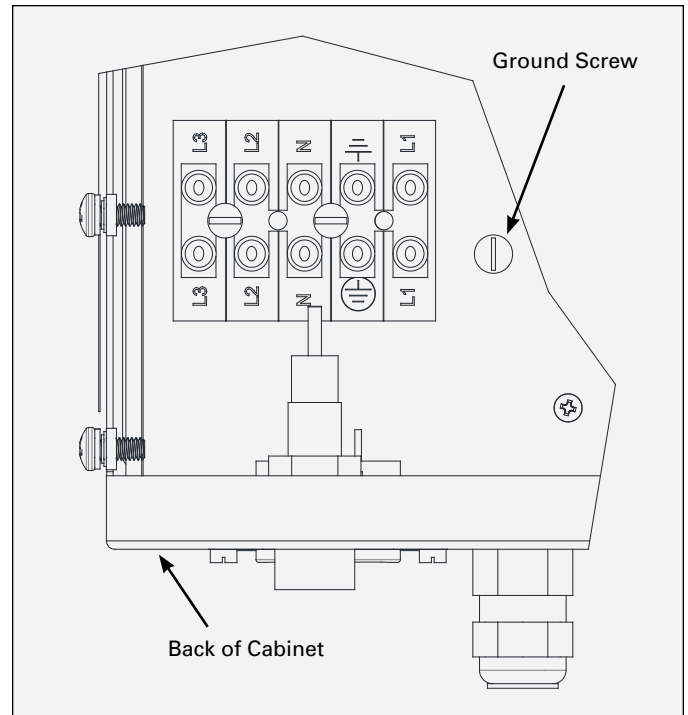
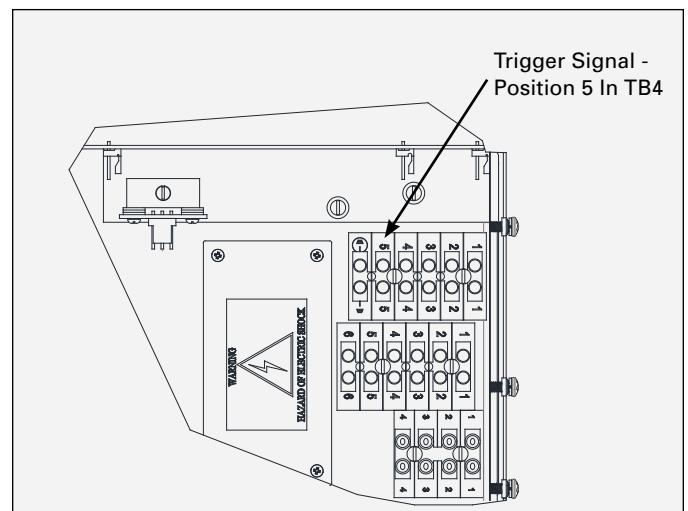
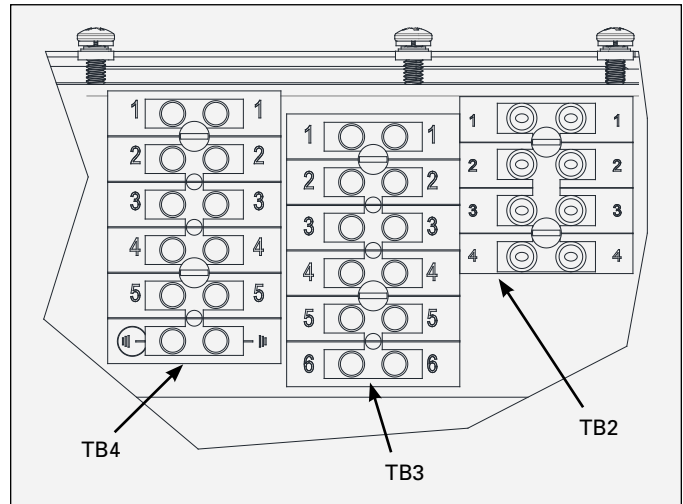

Figure 13: Ground Screw on Base Plate
Figure 14: Remote I/O Signal Terminal Block
Figure 16: I/O Terminal Block Locations
3. If the flow switch is being used, connect the ground (green) lead from the flow switch to the ground screw on the base plate shown in Figure 13. The trigger signal (black) lead should be connected to the trigger signal on the remote I/O terminal block connector (Position 5) as shown in Figure 14.
- The local/remote board (Assy# A13123), shown in Figure 14 at the bottom below the remote I/O signal terminal block, is designed for trigger protection in REMOTE mode. It must have the jumpers adjusted into “bypass position” to allow for LOCAL mode operation for the desired input type. The location of the jumpers on the board is displayed in Figure 16. Use the LOCAL mode jumper settings table for the jumper settings based upon your specific input.
4. Connect the conductors to the respective remote I/O signal locations. Screw down the terminal block screws to secure the conductors in place. The I/O Signal Locations table contains the complete list of all I/O, ground, and 24VDC supply locations as well as their normal voltage/current values. The locations of the I/O terminal blocks are shown in Figure 16.